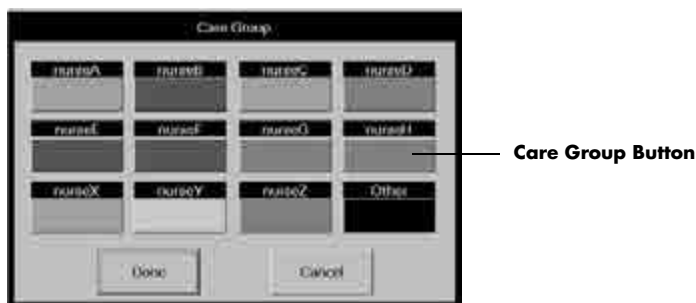

FIGURE 5-13 Care Group Dialog Box
1. From the **Demographics** tab, select the **Care Group** sidebar button. The **Care Group** dialog box (shown in FIGURE 5-13) is displayed.